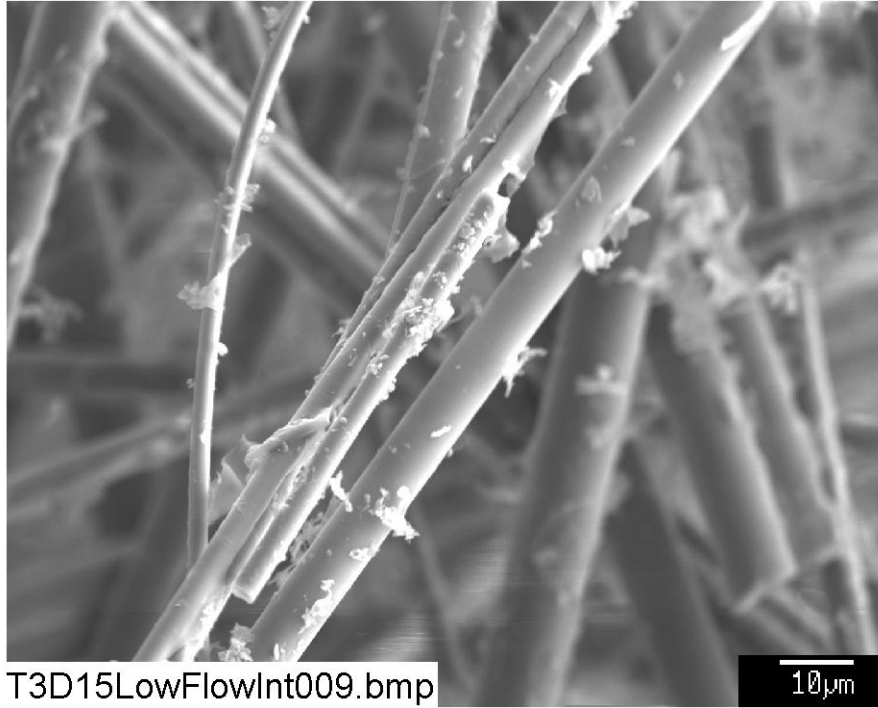

Figure B2-9. SEM image magnified 1000 times for a Test #3, Day-15 low-flow interior fiberglass sample. (T3D15LowFlowInt009)
- Figure B2-9. SEM image magnified 1000 times for a Test #3, Day-15 low-flow interior fiberglass sample. (T3D15LowFlowInt009) B2-9